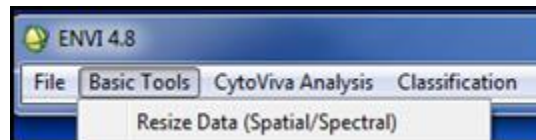

Figure 5.12a. Opening the Resize Window
- Click Resize Data (Spatial/Spectral) (Figure 5.12a).